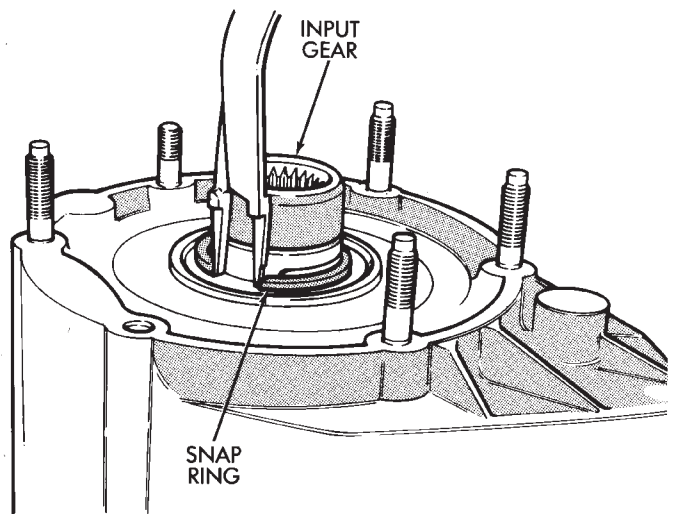

Fig. 52 Install Input Gear Snap Ring
(16) Install new input gear snap ring (Fig. 52).